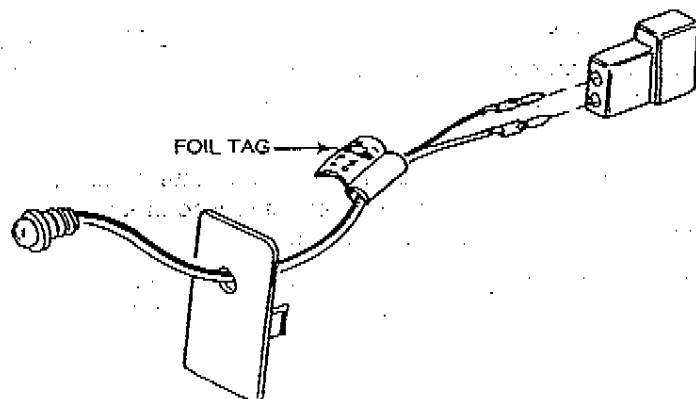

FIGURE 16
4. See Figure 16 . Install LED in knock out panel. Properly install LED wires into white plug housing (supplied in kit) so that wire color markings match those on the alarm wiring harness. Use the foil tag on the LED wires as guide reference.